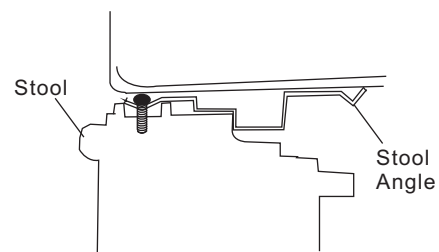

Fig.12
2. Place cabinet in window with bottom stool angle firmly seated over window stool as shown. Bring window down temporarily behind top angle to hold cabinet in place (Fig.12).
Step 2. Remark a line on the provide R1 insulation panel according to a length  $1/8"$  (3mm) less than the measured width in step 1, then cut the R1 insulation panel along the line (Fig.12).